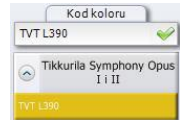

Fig. 10 – Colour Code pane
- After choosing this icon, the **Colour Code** pane will appear (Fig. 10);